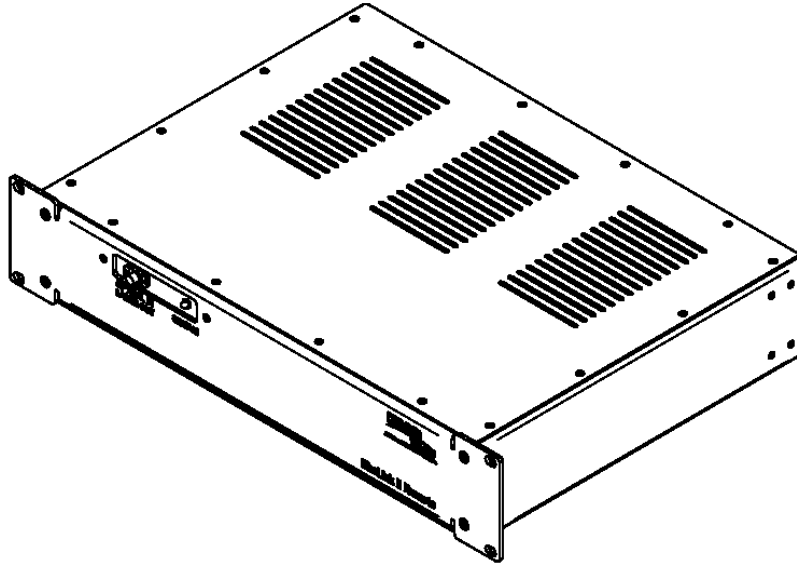

Figure 8: EkoLink II Remote (standard enclosure configuration).
- Figure 8: EkoLink II Remote (Standard Enclosure Configuration)
Each Remote is in an enclosure suitable to the application specific requirements. The standard EkoLink II Remote offering is a 19-inch rack mount configuration as shown in Figure 8.